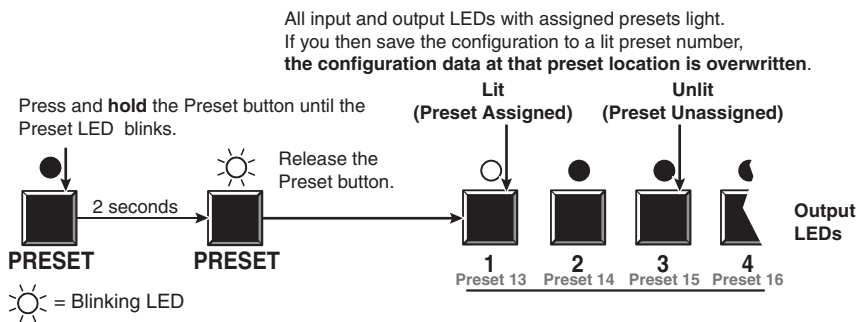

Figure 3-35 — Enter Save Preset mode
2. Press and **hold** the Preset button for approximately 2 seconds until the Preset LED blinks (figure 3-35).